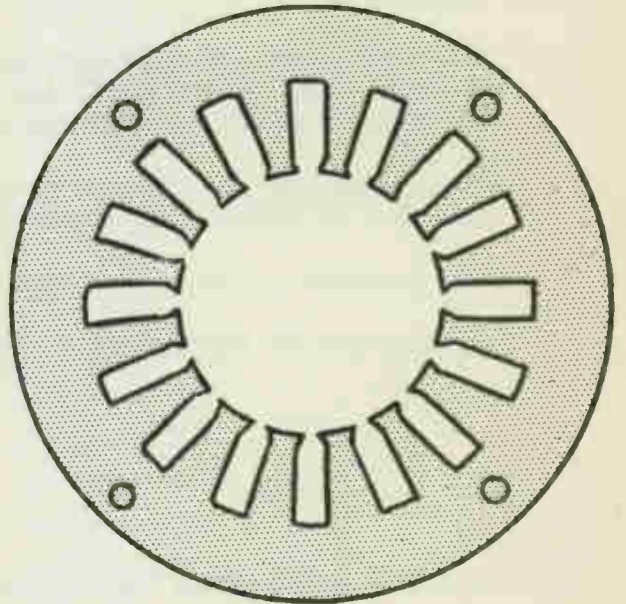

Fig. 3.
c. Compensated, distributed field, Fig. 3.